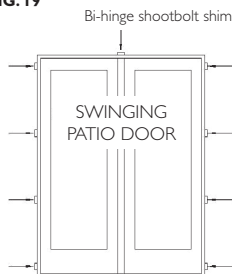

FIG. 20
- K) Start with a shim at each corner no more than 1" from the jamb corner. Add additional shims at each pre-drilled frame hole. Note to use flat shims or pairs of triangle shims to ensure the jamb does not twist. (Fig. 20)
- L) Additional shims are required at each lock point, head shootbolt and hinge location for all operating doors. (Fig. 20)